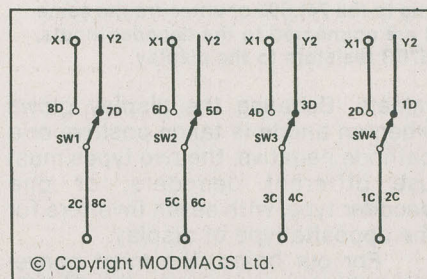

Fig. 2 The conventional switch arrangement — a reminder.
to provide clock pulses, and make sure that all the switches are wired as they were at the beginning, so that up gives logic 1 and down gives logic 0 — Fig. 2 is a reminder of this switch wiring. Now make the connections which are needed to use the 74LS90 as a decode counter, displaying its count on the LED's. The circuit is shown in Fig. 3. One of the spare gates of the 74LS132 is used to control the clock pulses, so that SW1 acts as a count/wait switch. Switch SW4 is wired to the reset (0), terminal, so that the counter can be reset with this switch up.